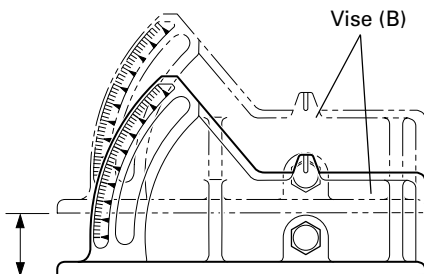

Fig. 14
4. Moving the stationary vise-jaw (Fig. 14)